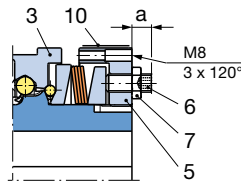

Fig. 10
- EAS®-Compact® overload clutch, sizes 4-5: find dimension "a" in the Adjustment Table glued to the adjusting nut (5) (Fig. 10).
- Counter the set screws (6) again using hexagon nuts (7).
Re-engagement takes place using 3 hexagon head screws (Fig. 10; provided by the user: M8 for sizes 4 and 5): The screws are screwed in evenly in the adjusting nut (5) by placing axial pressure onto the thrust washer (3).